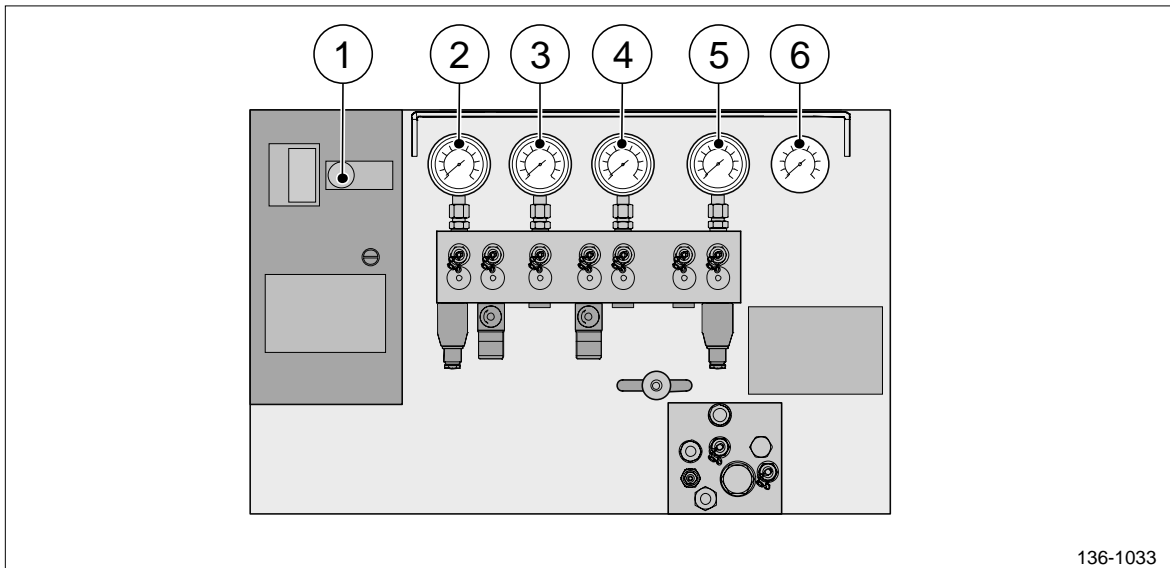

Figure 3 Oil pressure gauges located on the hydraulic power pack control panel.
4. Set the local/remote switch (pos 1, figure 3) on the hydraulic power pack control panel to **LOCAL CONTROL**.
7. Check the pressure on gauge G1 (pos 2, figure 3) and make sure that the pressure is in accordance with the maximum pump pressure, stated on the Hydraulic Diagram drawing.
9. Check the pressure on the pressure gauge G3 (pos 3, figure 3). If the pressure is not in accordance with the pressure value stated for valve V8 on the Hydraulic Diagram drawing the valve V8 has to be adjusted or replaced, see Task Replace the Relief Valve V8.